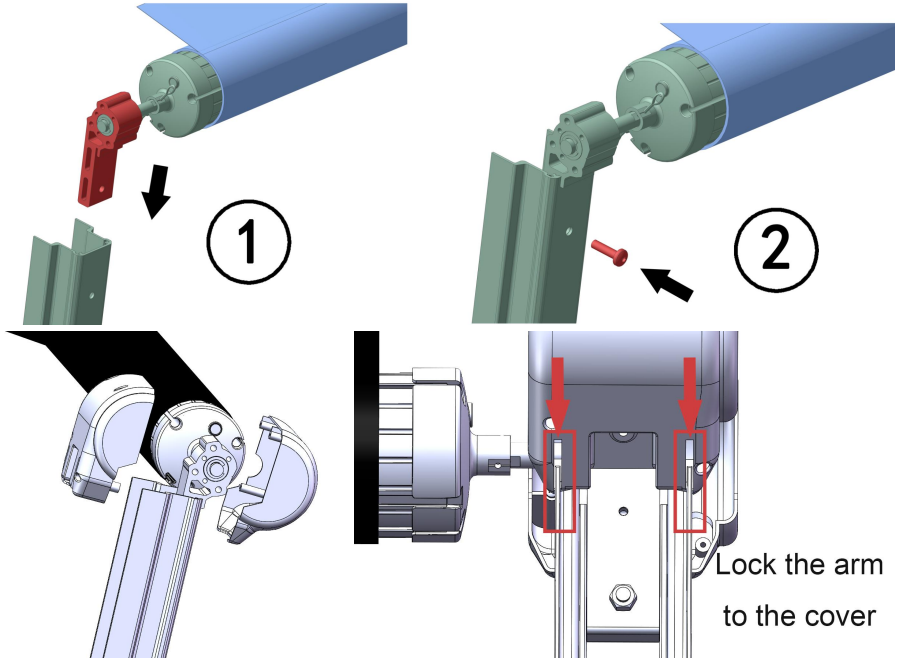

Figure D17
3.7.2 Remove the decorative cover on the top of the non-motor side folding arm, insert the non-motor side scroll and bracket into the top of the folding arm, fix it with Screws(all screws on the covers), and install the decorative cover. (FigureD17)